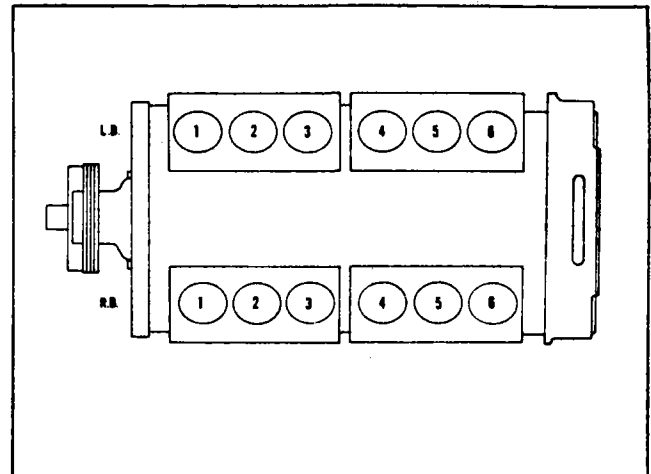

Fig. 2-47, (V414231). V-1710 piston position
- For the firing order See Table 2-13 for Inline Engines and Tabel 2-14 and Fig. 2-47 for V-1710 Engines.